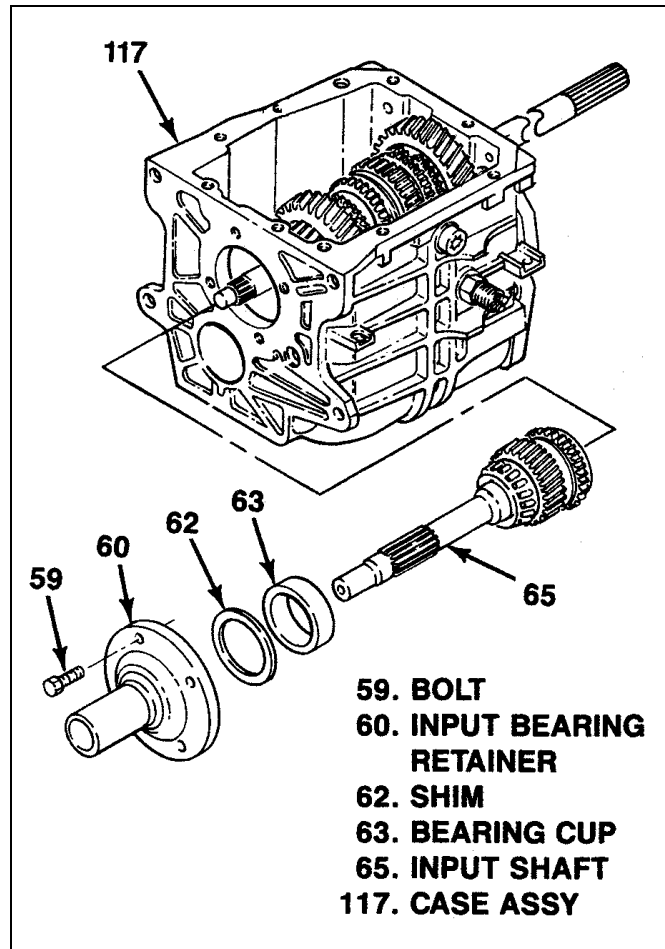
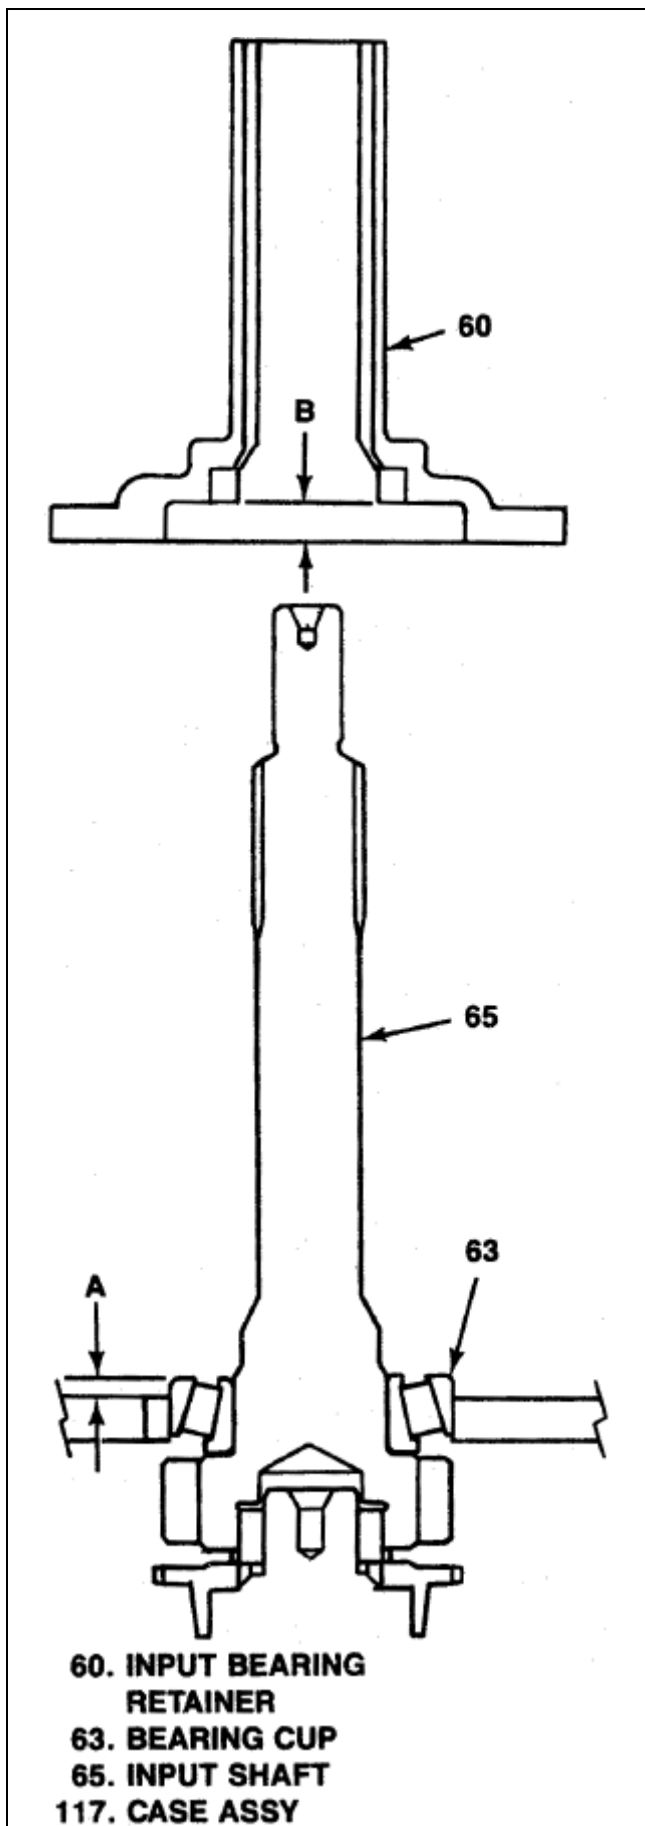

Figure 6-21. T5 WC Bearing Preload Adjustment
Figure 6-22. T5 WC Bearing Preload Measurements
**6-19. ADJUSTMENT OF T5 WC INPUT/OUTPUT SHAFT BEARING PRELOAD.** With both input bearing retainer and extension or adapter installed as described in preceding paragraphs, adjust input/output shaft bearing preload as follows (see figure 6-21 and 6-22):
- b. Remove bolts (59, figure 6-21) attaching input bearing retainer k(60) and remove bearing retainer.
- c. Using hand pressure, press down firmly on input shaft (65) and bearing cup (63) to ensure that power train parts in transmission are fully seated.
- d. Using suitable depth micrometer measure and record the following (see figure 6-22):
- 1. Dimension A, distance from top of bearing cup (63) to mounting face on transmission case (117) for input bearing retainer (60).
- 2. Dimension B, distance from mounting face on input bearing retainer (60) to bearing cup contact surface.